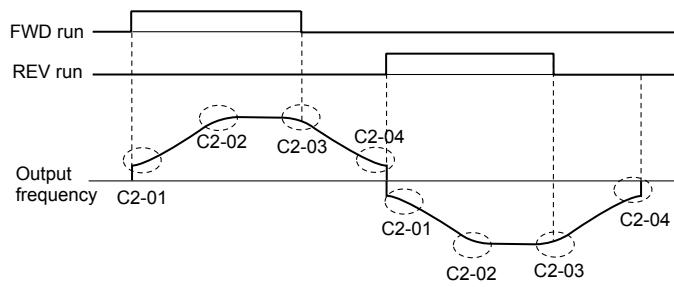

Figure 5.34 S-Curve Timing Diagram - FWD/REV Operation
**Figure 5.34** illustrates S-curve application.